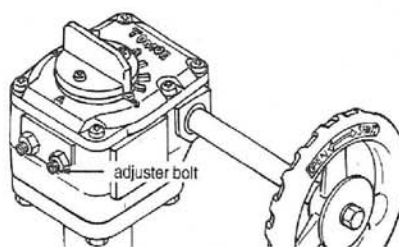

Fig. 8
- 9 Refrain from touching the adjuster bolt on the gearbox. The adjuster bolt is for adjustment of the closed position of the valve, any change of adjustment may cause a valve leak. (Fig.8)